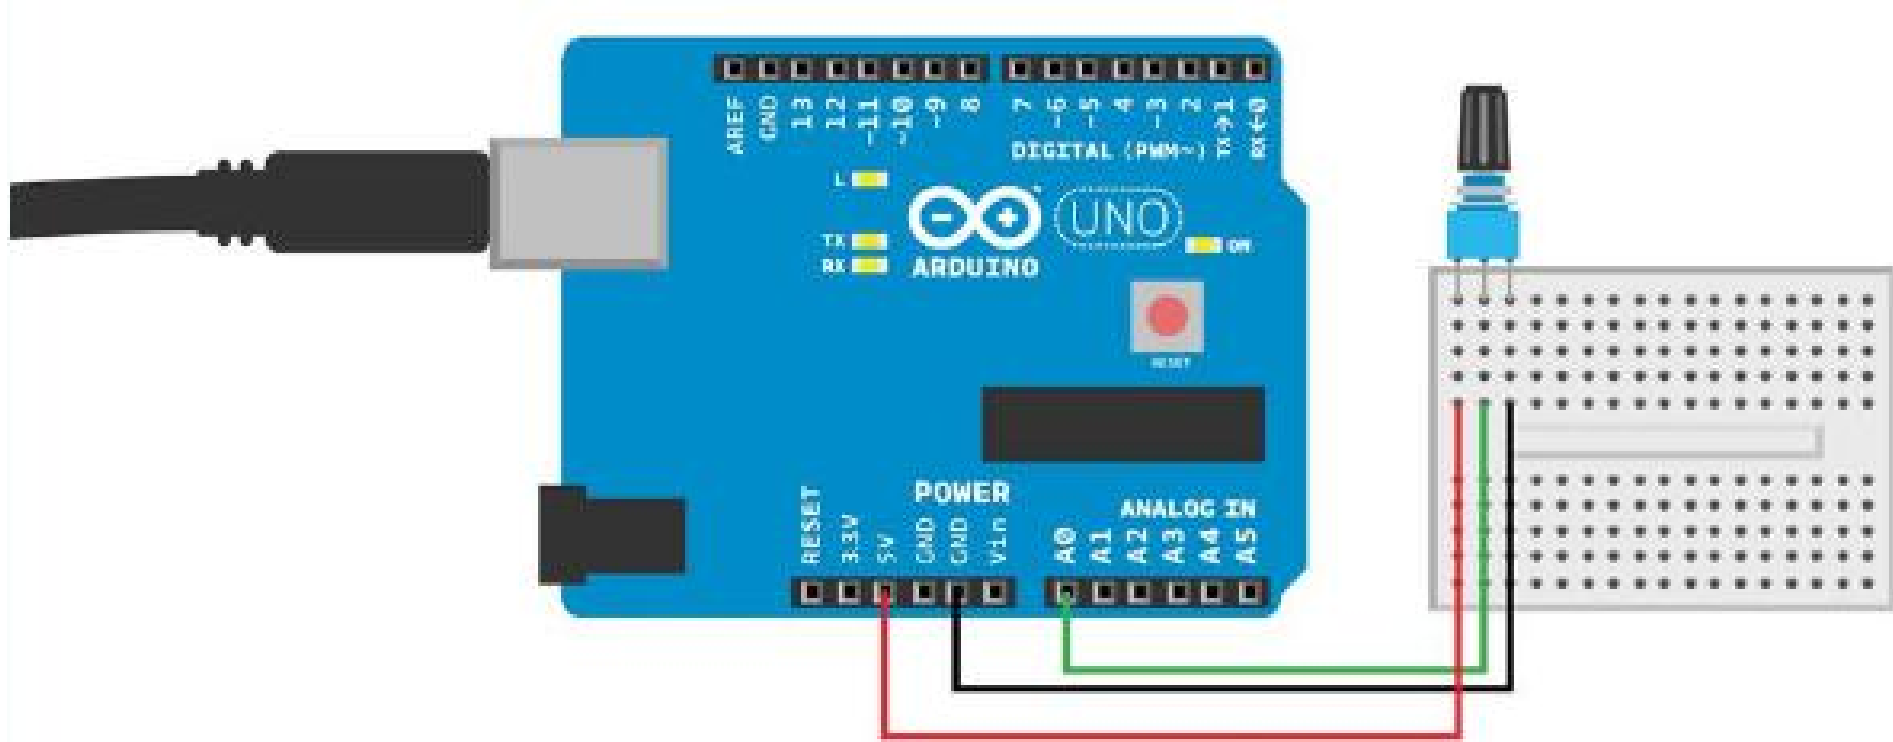

Figure 5-10. Potentiometer circuit for Arduino
- Figure 5-10 shows the connection diagram for Arduino. Set up your circuit as shown, and then upload and run the sketch shown in Example 5-5.